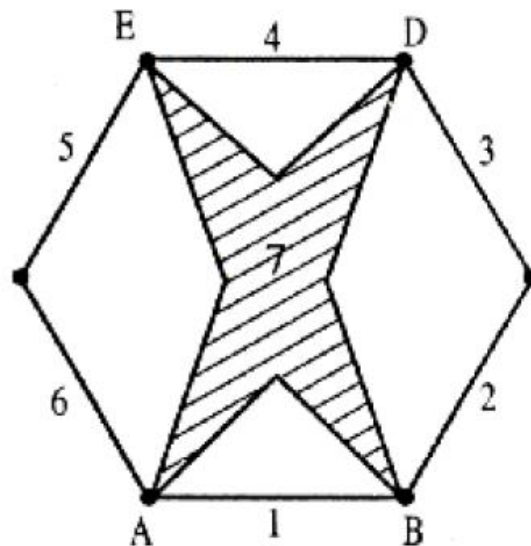

Fig 1C
- 1C.** Determine the mobility of the mechanisms given in Fig. 1C, **3**